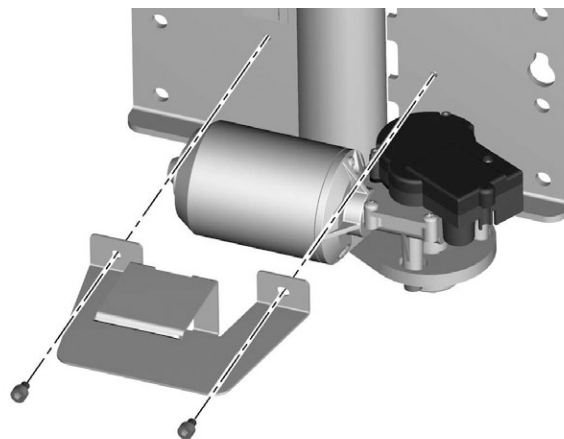

Figure 116. ICS Master Module bracket.
7. Assemble the ICS Master Module bracket. It is attached with two screws. See fig. 116.